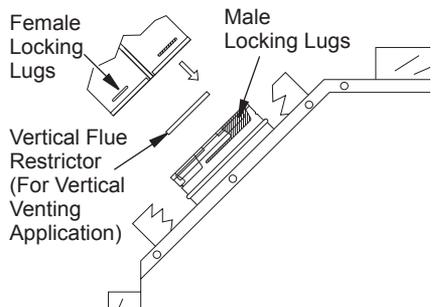

Figure 6 - Venting Installation
1. Install elbow to fireplace collar adapter located on back of the unit at a 45° angle. Slide elbow over collar and twist to lock. Check to insure proper connection (see Figure 6).
6. **For vertical installation**, a vertical termination is available. A vertical flue restrictor must be installed into inner collar of fireplace as shown in Figure 6, page 9.